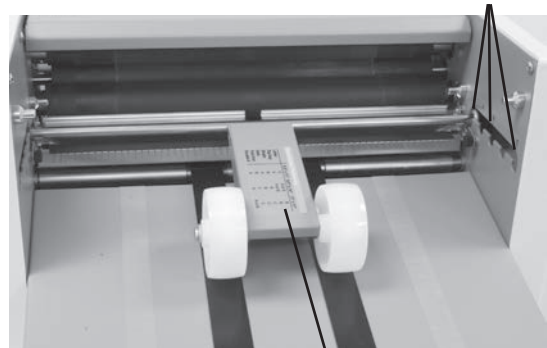

Fig. 6
3. Move the stacker wheels to the proper position for the paper size (Fig 6) ( Refer to chart on page 7).